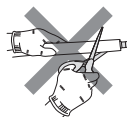
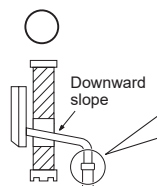

Fig. 1
Fig. 2
- Attach conduit pipe (for rear piping) / elbow joint (for right, left, or downward piping) to conduit plate with lock nut. The thread of the installed conduit pipe / elbow joint appearing inside should be less than 3/8 inch (10 mm). (Fig. 1) Elbow joint should appear less than 1-3/16 inches (30 mm) outside. (Fig. 2)
- Pull out the drain cap at the back right of the indoor unit. (Fig. 1)
- Pull out the drain hose at the back left of the indoor unit. (Fig. 2)
- Do not cut the drain hose of the unit. (Fig. 1)
- The drain hose should point downward for easy drain. (Fig. 2)
- 1) Cut the copper pipe as straight as possible with a pipe cutter. (Fig. 1, 2)
Removal procedure (Fig. 1)
Installation procedure (Fig. 2)